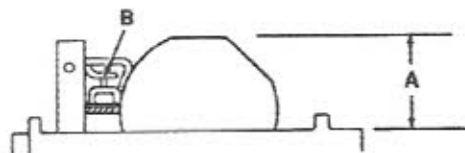
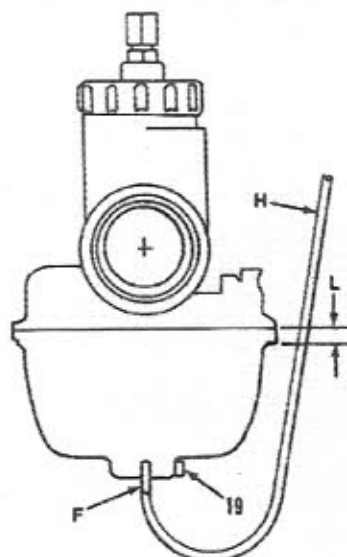

Fig. K4-6—Float height is measured at (A). Gently bend float arm tang (B) to adjust. Float height (A) should be 33.3 mm (1.31 in.).
Fig. K4-7—The fuel level (L) is measured from the bottom edge of carburetor body. Refer to text.
(9) to obtain the lowest smooth idle setting. After adjusting carburetor idle setting, check throttle lever free play as outlined in previous paragraph.
When servicing the carburetor, note the following: Jet needle clip (5) should be located in fourth groove from top of jet needle (6). Float height (A—Fig. K4-6) should be 33.3 mm (1.31 in.) as measured from gasket surface of carburetor body to lowest edge of float. Adjust the float level by bending tang (B) on float arm.
The fuel level is checked with the carburetor installed and vehicle operational. To check fuel level, attach a suitable clear hose (H—Fig. K4-7) to fuel overflow fitting (F). Hose should be of sufficient length to extend above the bottom edge of carburetor body without kinking the hose. Open the float bowl drain screw (19) approximately two turns. Run the engine at idle speed until fuel level in hose stabilizes, then stop engine. Measure the distance from the bottom edge of carburetor body (float bowl contact surface) to fuel level in hose to determine fuel level as shown at (L). Fuel level check will not be accurate if hose is raised or lowered after fuel level has stabilized. Fuel level (L) should be 5 mm (0.2 in.). To adjust fuel level, the float bowl must be removed to carefully bend float arm tang (B—Fig. K4-6).